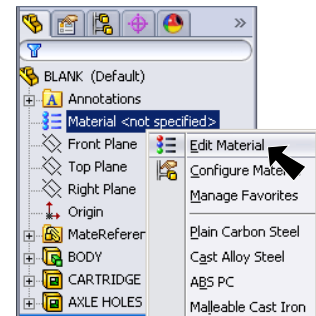

Fig. 27
Step 1. Right click **Material**  in the Feature Manager and click **Edit Material**, Fig. 27.